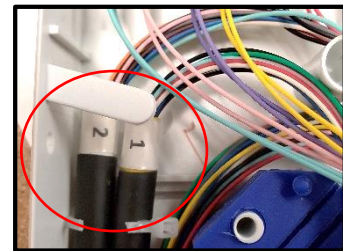

Figure 9
Pattern for 24 Ribbon Fox Cassette. Blue will be spliced to the first 12 fibers (unit one) of the FOX cassette and orange will be spliced to the 2nd unit fibers. See Figure 9.
6.5 If you are terminating into a ribbon FOX cassette without an MPO connector, you will run the ribbons into the back of the cassette. Once two ribbons have been ran into the cassette, splice the ends to the breakout unit ribbon to one of the ribbon termination units in the cassette. Make sure to splice the first ribbon to unit 1 and second ribbon to unit 2. See **Figure 9 and Table 1/2**. Ensure that the cables going into the cassette are curled in the opposite direction to the cables in the cassette.
NOTE: For Table 3 below, the blue subunit will be spliced to the first unit of 12 fiber ribbons in cassette and orange in unit 2 as shown in Figure 9.